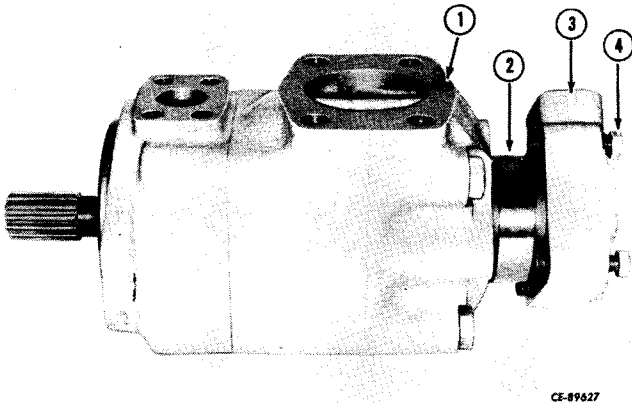

Figure 11-5
Remove the cap screws (4, Fig. 11-5). Remove the cover (3) and cartridge (2) from the pump (1).